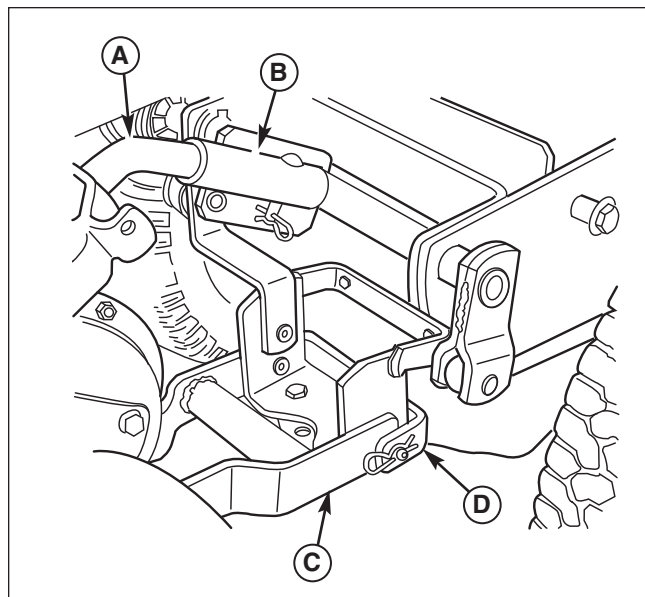

Figure 19. Tiller Assembly
2. Attach the tiller to the rear hitch (see Figure 19).